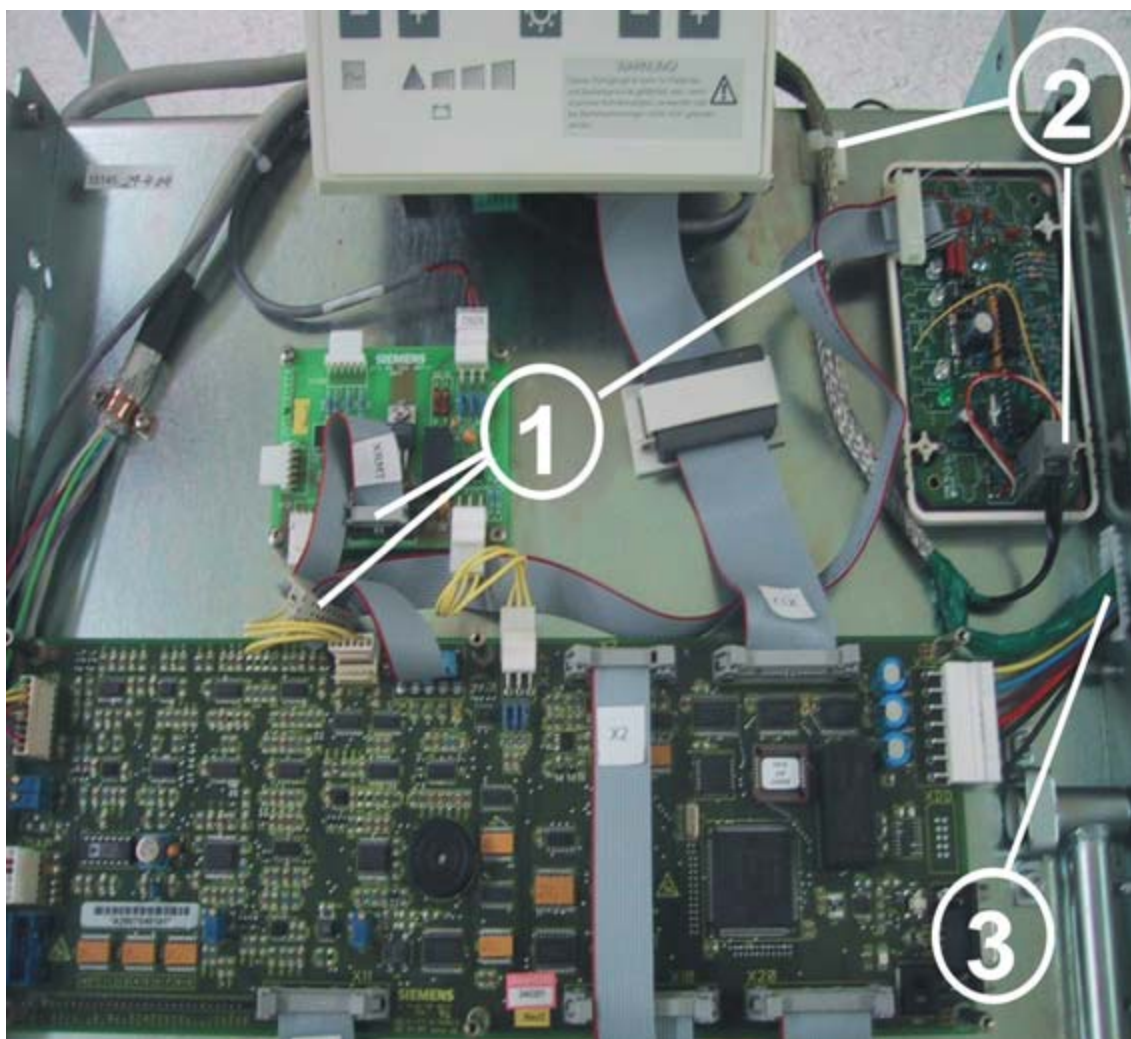

Fig. 6: Remote board
- Attach the sensor cable at the top right next to the arm (2/Fig. 6 / p. 10).
- Attach the sensor remote board at the top right using adhesive film and connect the sensor cable (2/Fig. 6 / p. 10).
- Unplug the cable between D916 and D917 (1/Fig. 6 / p. 10) from D917.
- Connect the cable from D916 to the adapter (1/Fig. 6 / p. 10).
- Route the ground cable through the hole in the chassis (3/Fig. 6 / p. 10).